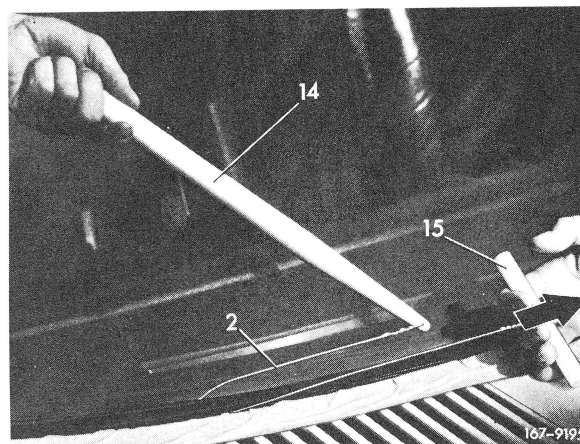

Fig. 2
- 6 Attach steel wire (2) inside to handle (14).
- 7 Attach tommy (15) to other end of steel wire (2).
- 8 Tension wire (2) inside with handle (14) (Fig. 2).